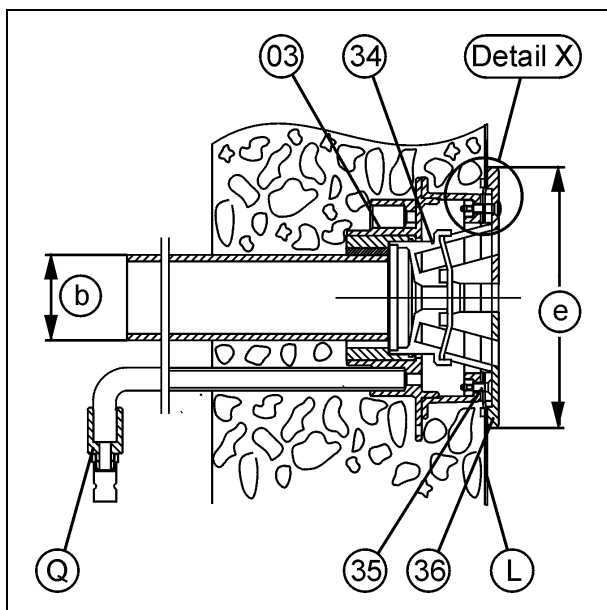
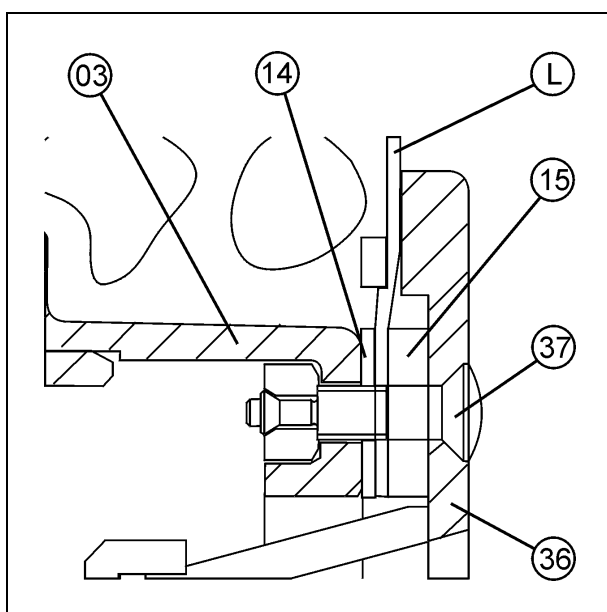

Fig. 4
Fig. 5
see Fig. 4 and Fig. 5
- X For detail see Fig. 5